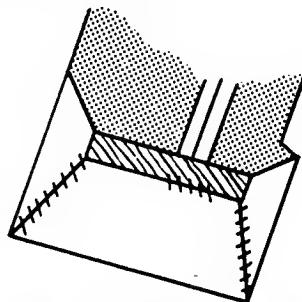

**Fig. 217.** Forming a mitered corner.
- On an overlap, fold back the vent and hem and form a diagonal seam from A to B (Fig. 217) forming a